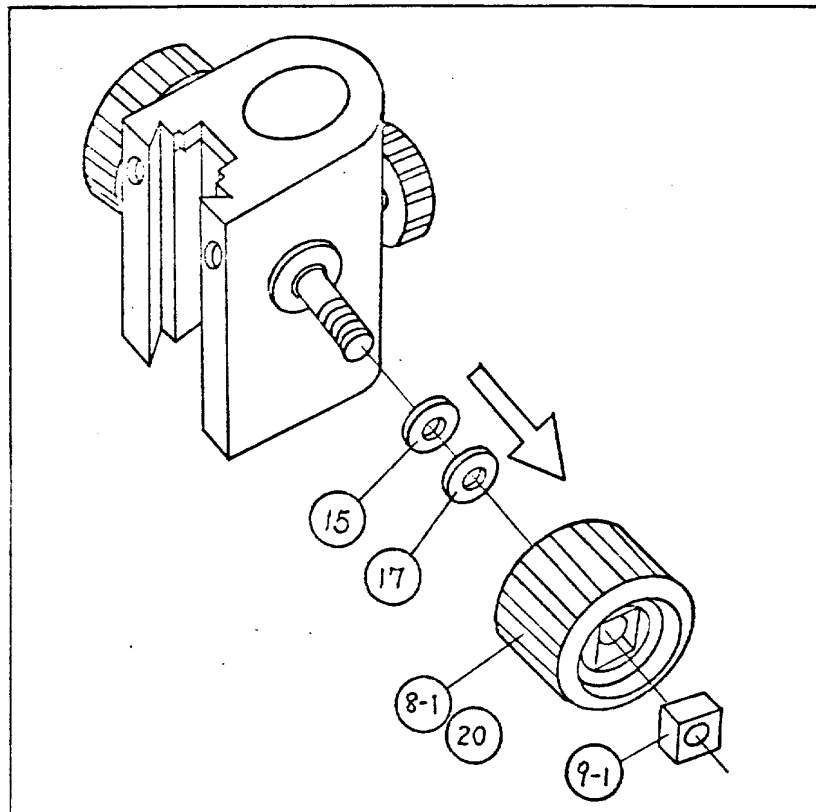

Fig. 67
- 6) Take off the focusing knob (8-1) with the friction chip (9-1) by unscrewing (Fig. 67).